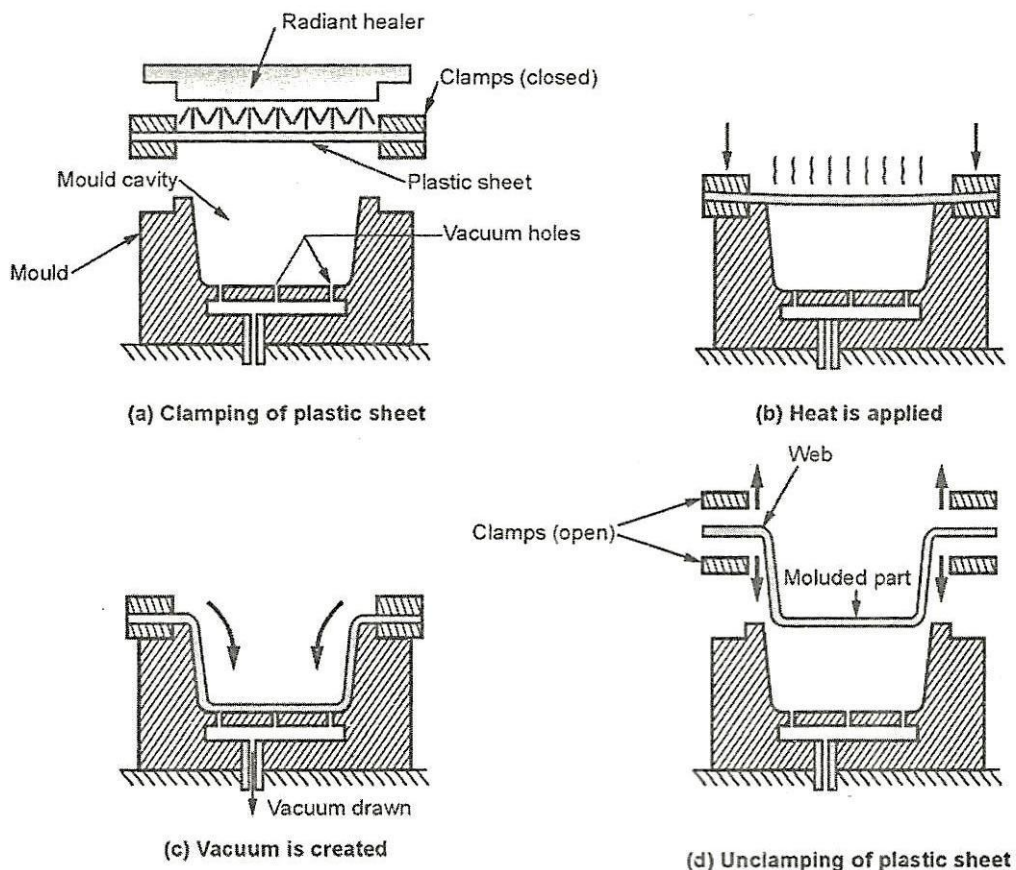

Figure 5.8 Vacuum forming
- It employs a clamp to grid the plastic sheet having thickness of about 0.125 to 3.2 mm, around its circumference. Refer Figure 5.8 (a).
- Figure 5.8 (b) shows that instead of vacuum sometimes hot air is used to drive the plastic sheet into the female mould cavity.